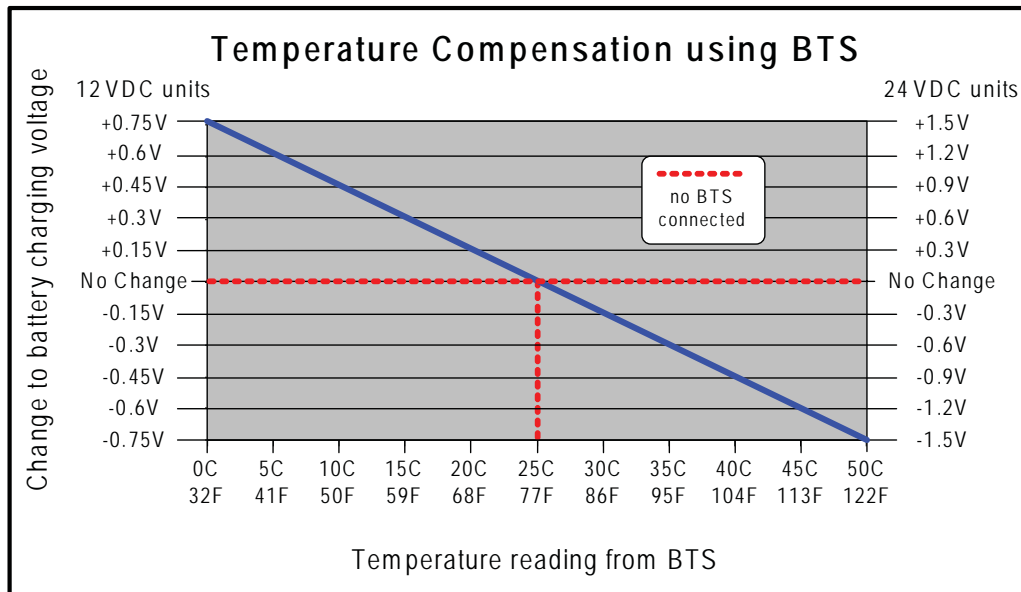

Figure 12, BTS Temperature to Charge Voltage Change
The multi-stage charger can use up to five different charging stages to help monitor and keep the batteries healthy. The five stages include an automatic 4-stage charging process (Bulk, Absorb, Float, and Full Charge), and a manual Equalization (EQ) charge stage. The automatic 4-stage charge process provides complete recharging and monitoring of the batteries without damage due to overcharging (see Figure 12). The Equalization stage (requires the ME-RC50 remote) is used to stir up stratified electrolyte and reverse any battery plate sulfation that might have occurred.
When the BTS is installed, if the temperature around the BTS is below 77°F (25°C) the absorb and float charge voltage increases. If the temperature around the BTS is higher than 77°F (25°C), the absorb and float charge voltage decreases. See Figure 12 to determine how much the charge voltage changes (increases or decreases) as the temperature reading of the BTS changes. For example, the nominal absorb charge voltage for a flooded battery at 77°F (25°C) on a 24-volt model is 29.2 VDC. If the battery temperature is 95°F (35°C), the absorb charge voltage would decrease to 28.6 VDC (29.2 VDC - 0.6 change).